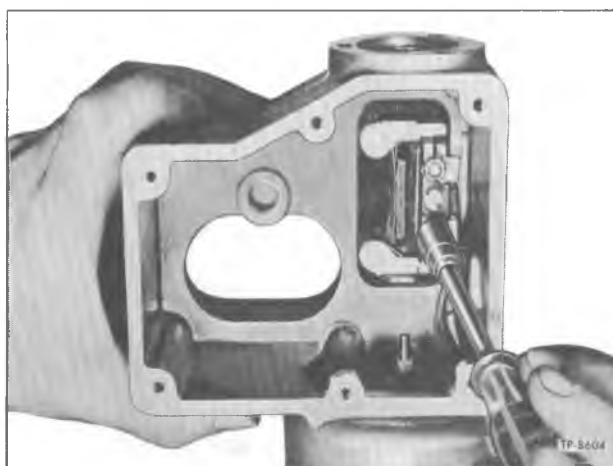
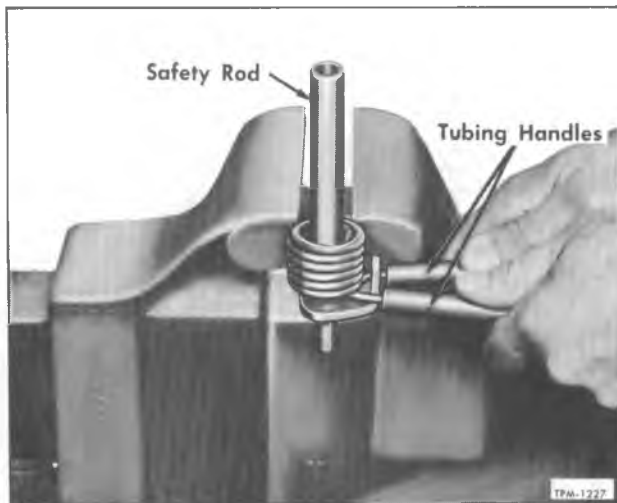

Figure 15—Removing Motor Wires
Figure 17—Removing Torsion Spring (Rockwell)
8. Remove the two lock nuts (19) from switch terminals (17). Pull off motor wires (fig. 15).
9. Remove three screws and lock washers (1) which attach motor cover (4) to housing. Pull out motor (6) with cover (4) attached to motor with two cover nuts (2). Remove grommet (7).
10. Remove two jam nuts (9) and fiber washers (10) from outside of housing. On inside remove switch center screw (18). Pull out automatic switch (17).
4. Remove the two lock nuts (19) from switch terminals (17). Pull off motor wires (fig. 15).
5. Remove three screws and lock washers (1) which attach motor cover (4) to housing. Pull out motor (6) with cover (4) attached to motor, with two cover nuts (2). Grommet (7) can then be removed.
6. Remove two jam nuts (9) and fiber washers (10) from outside of housing. On inside remove switch to housing screws (18). Remove automatic switch.
7. Do not disassemble torsion spring (23), and spring winding lever (22) unless necessary to replace one of the parts. If necessary to disassemble, mount assembly in vise as shown in figure 17. Place a short piece of rod in hub of spring winding lever as a safety factor to prevent injury should torsion spring slip out of control. Next, place two lengths of tubing over ends of spring, pull spring